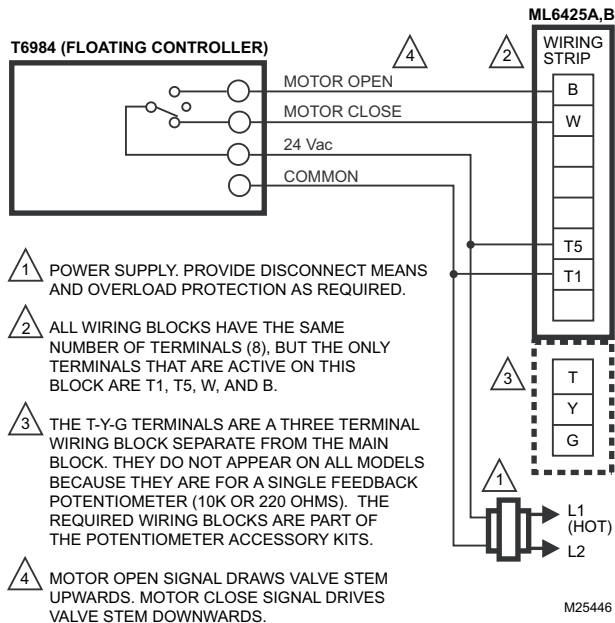

Fig. 7. ML6425 Wiring.
2. Using the wiring diagram in Fig. 7, connect power and control wires. Make sure that all wiring is correct.